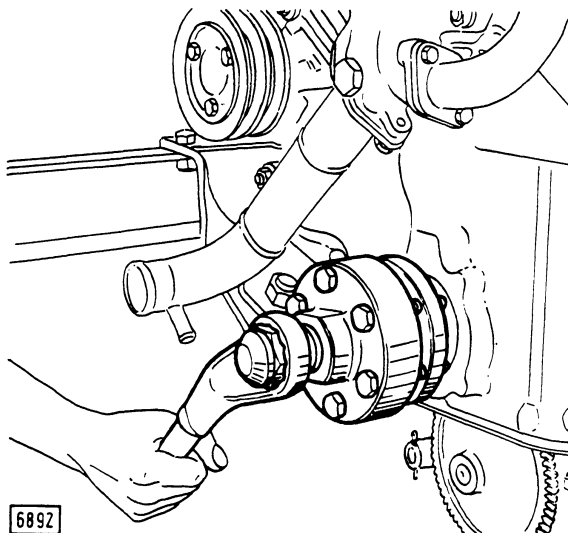

Fig. 27 - Removing crankshaft vibration damper using puller 75291504.
- Remove crankshaft vibration damper and withdraw hub as shown in fig. 27.